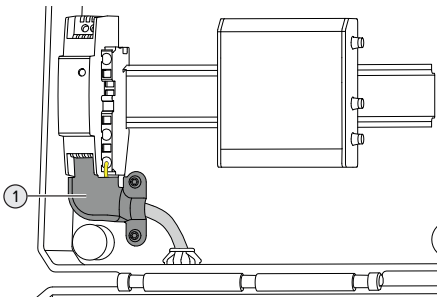

Fig. 7: Correctly mounted protective cap
- ▶ Ensure that the protective cap is mounted as shown in Fig. 7.